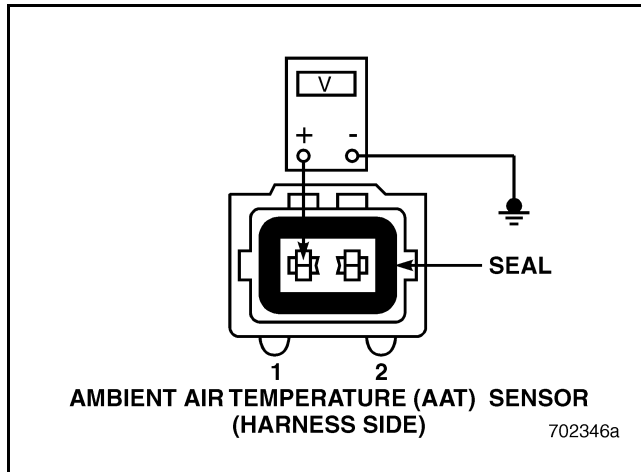

Figure 83
3. Measure the voltage between AAT Sensor harness connector pin 1 and a good ground (see Figure 83).